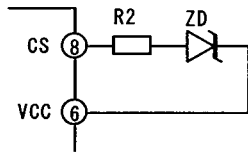

Fig.26 Overvoltage shutdown circuit (2)
To attain overvoltage protection, the CS pin voltage is forcibly raised from outside the IC until it exceeds the reference voltage (8.5V) of the internal comparator C2. When the reference voltage is exceeded, the IC enters latch mode and shuts the output down. Connect a zener diode (ZD) and resistor between the Vcc and CS pins as shown in Figure 26. When the Vcc voltage exceeds about ZD voltage + 8.5V, the IC enters the OFF latch mode and shuts the output down. If Vcc remains high even after shutdown and current is input to the CS pin, set the current to 1mA or lower.